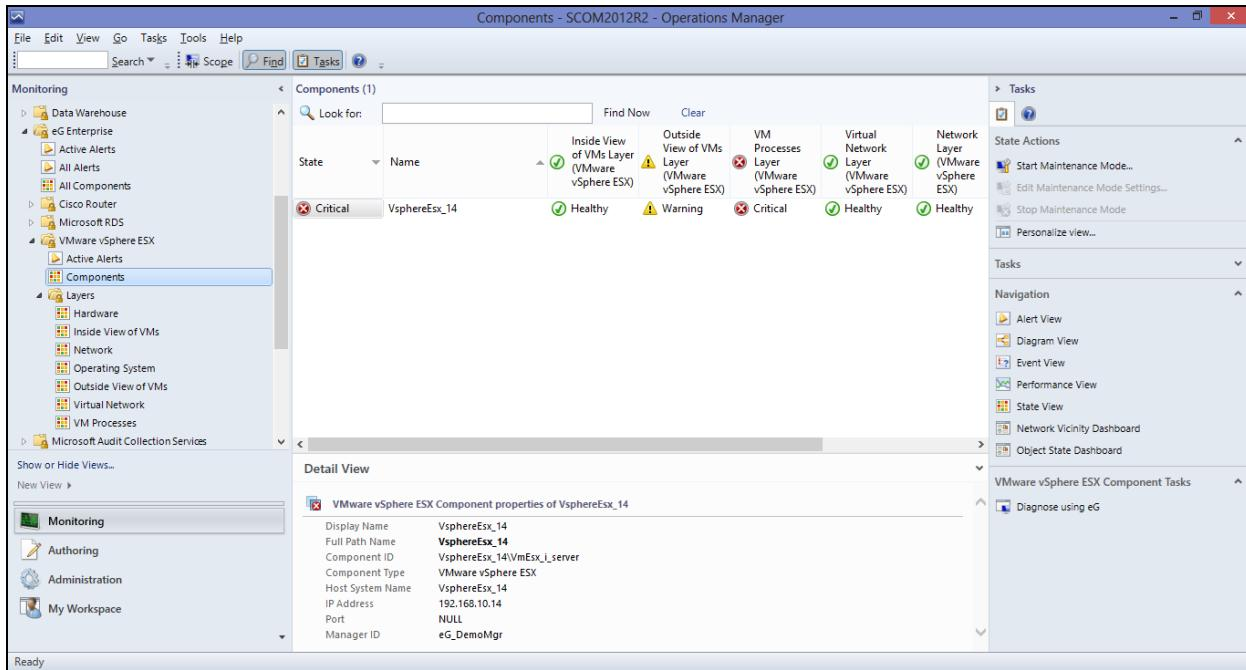

Figure 4.17: Viewing the managed components of type **VMware vSphere ESX** and their current state
7. Next, if you want to know which components of type **VMware vSphere ESX** are currently managed and what their current states are, click on the **Components** sub-node under the **VMware vSphere ESX** node. You will then view the complete list of managed **VMware vSphere ESX** components and their current states in the right panel (see Figure 4.17).